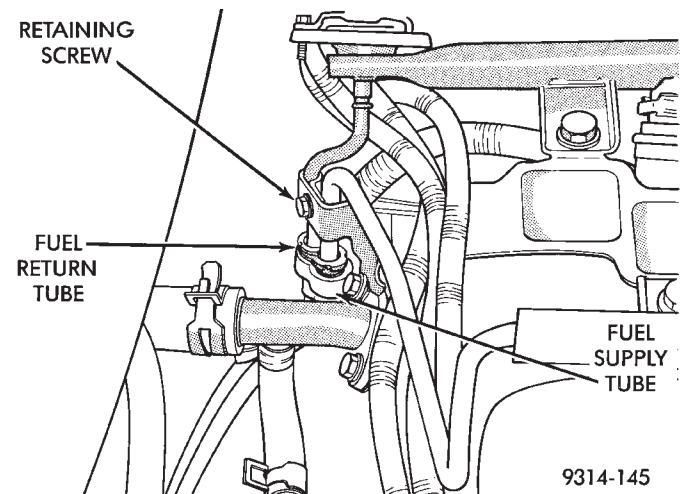

Fig. 16 Fuel Supply and Return Tubes
(11) Remove intake manifold plenum mounting bolts. Lift Plenum up off of engine. Cover intake manifold to prevent foreign material from entering engine.
(12) Disconnect fuel supply and return tube quick connect fittings at the rear of intake manifold (Fig. 16). Refer to Quick Connect Fittings in the Fuel Delivery Section of this Group.
(13) Remove screw from fuel tube clamp (Fig. 16). Separate fuel tubes from bracket.